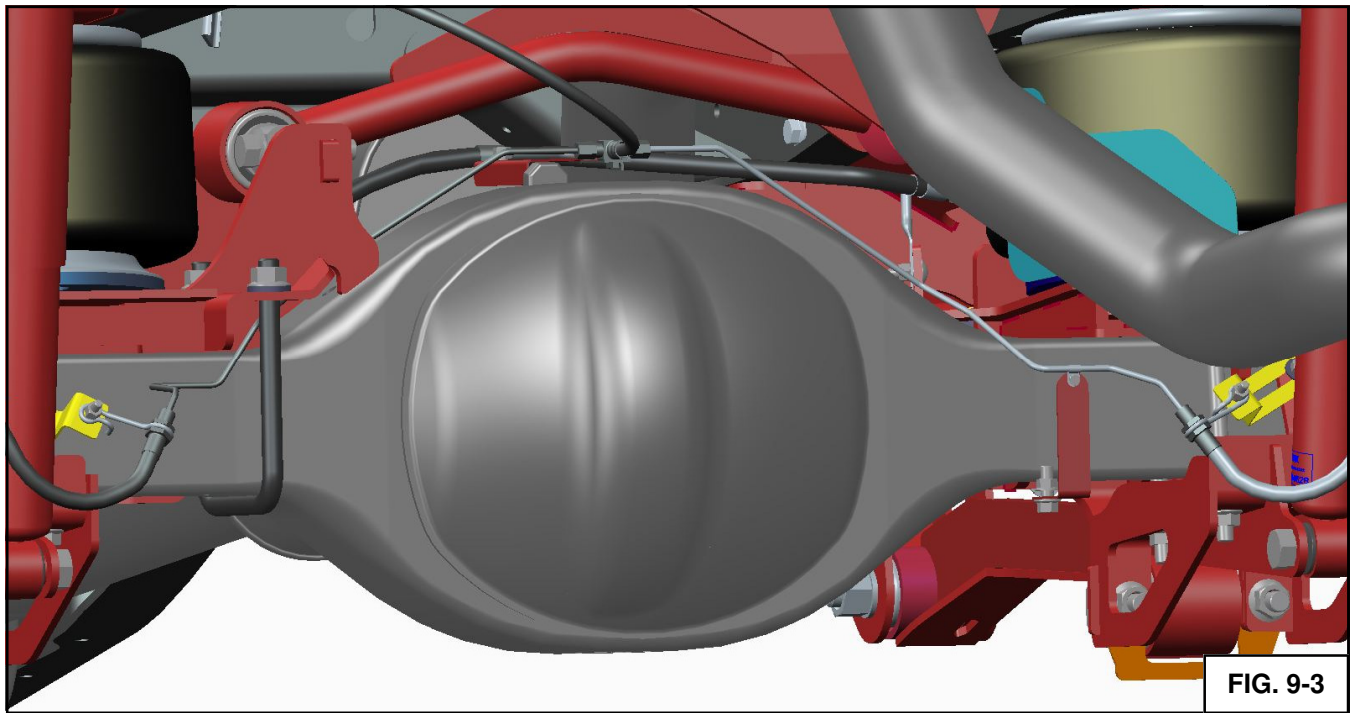
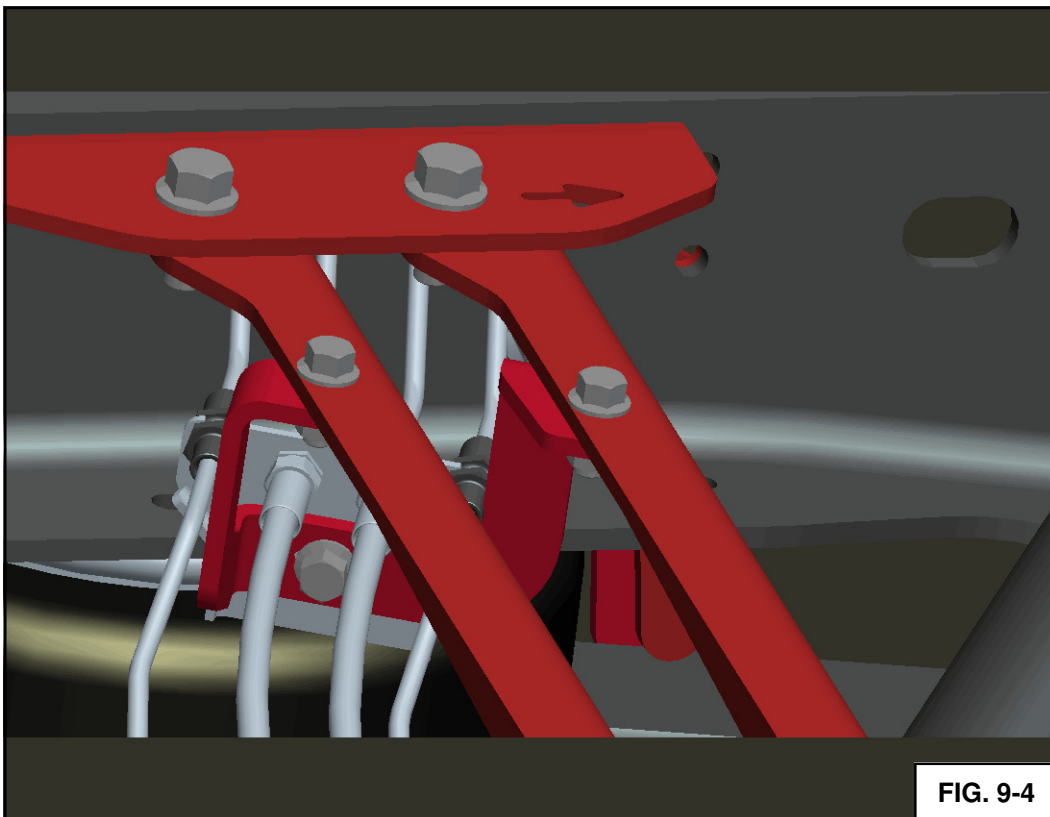

FIG. 9-3
FIG. 9-4
2. The Brake Lines that were originally mounted to the Axle Seat Bracket that was removed in Section 2 will need to be re-attached. Refer to Fig. 9-3 for complete view. The REAR CROSSMEMBERS have a bracket that will allow this to be done. Secure with the 3/8X1 UNC FLANGE BOLT and 3/8 UNC TOP LOCK FLANGE NUT as shown in Fig. 9-4.